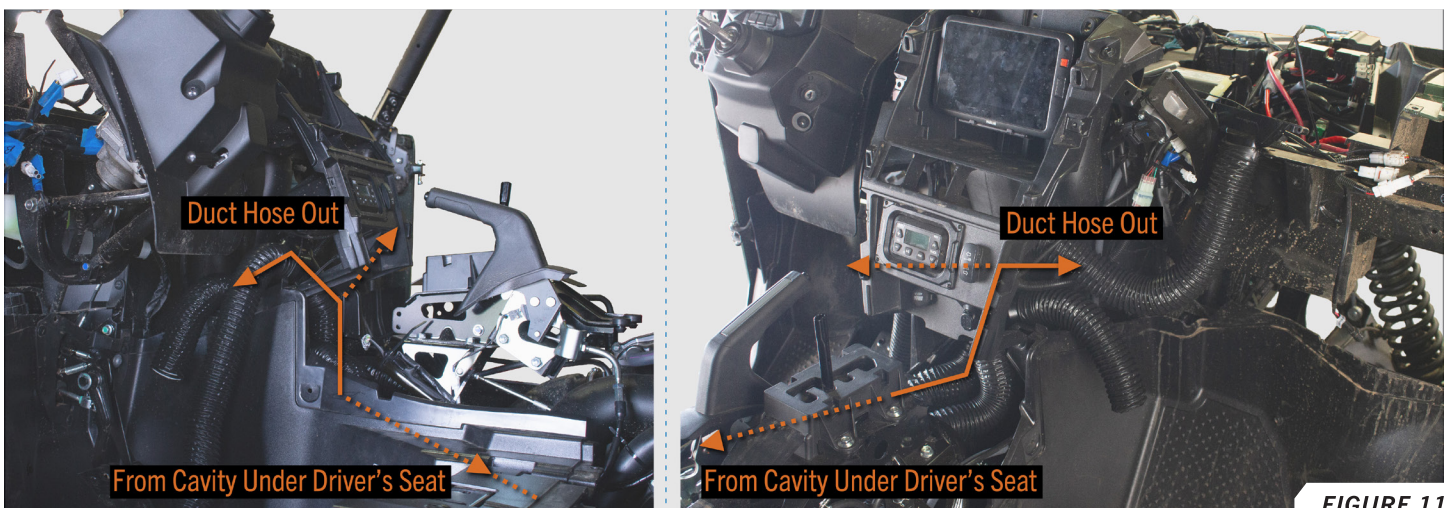

FIGURE 11
26. Route one 5" section and one 3" section to the driver's side, next to the steering wheel. Route the other 3" and 5" sections to the passenger side. **FIGURE 11**